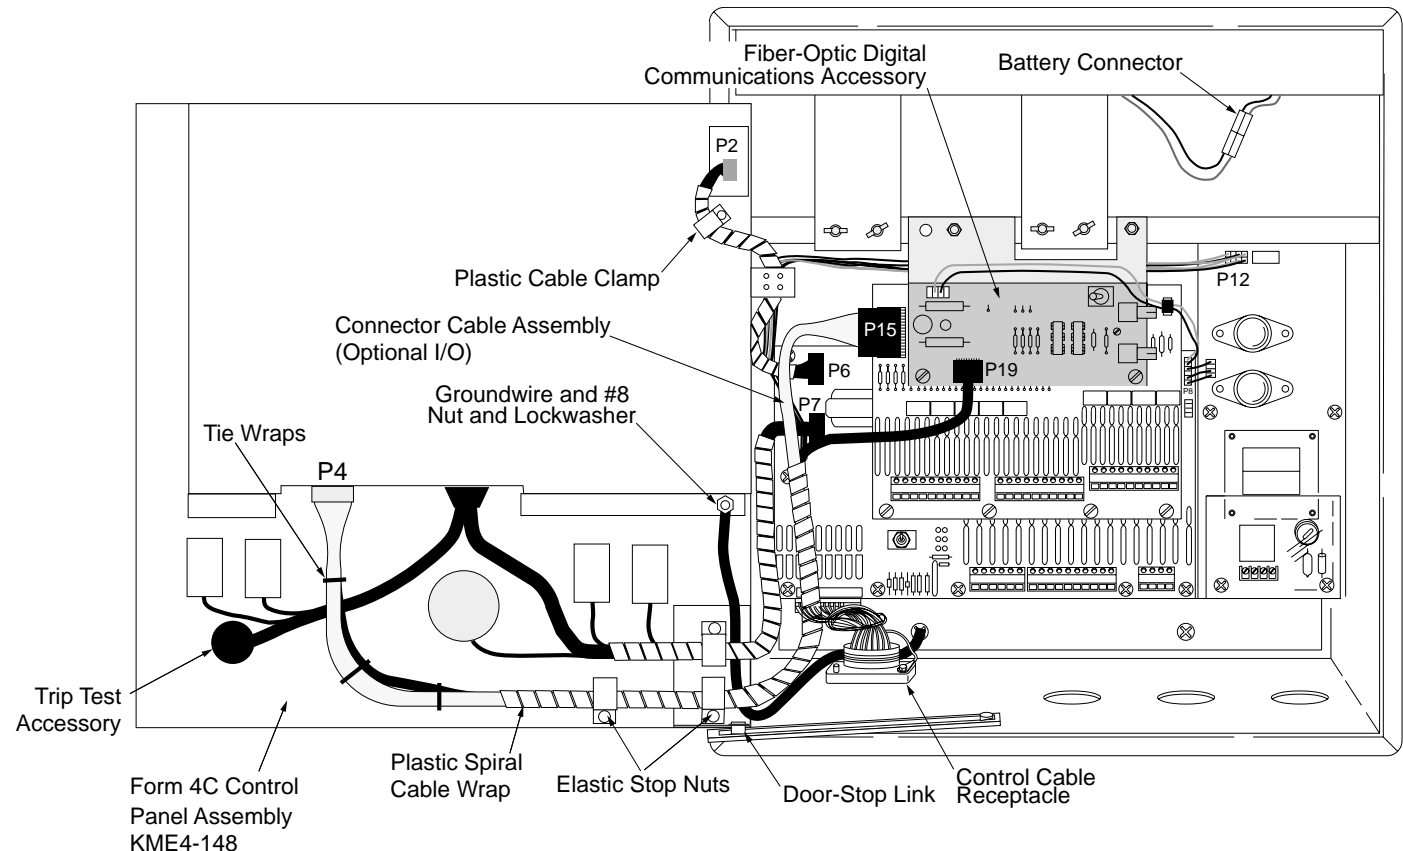
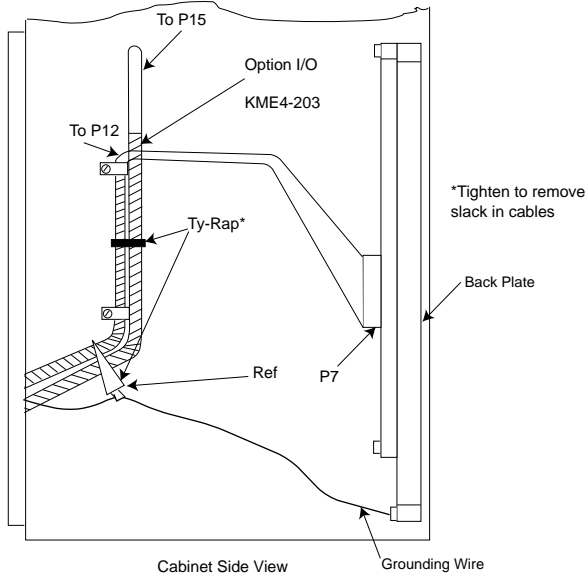

Figure 4.
Figure 5.
Refer to Figure 4 for part locations. The view may differ slightly for different versions of the Form 4C control.
7. Use cable clamp hardware included with the kit to secure the cable assembly to the front control panel (Figure 4).
10. Visually inspect the control cabinet for damaged or unconnected cables or wires. Make sure cable routings are as shown in Figure 4 and Figure 5 before proceeding.